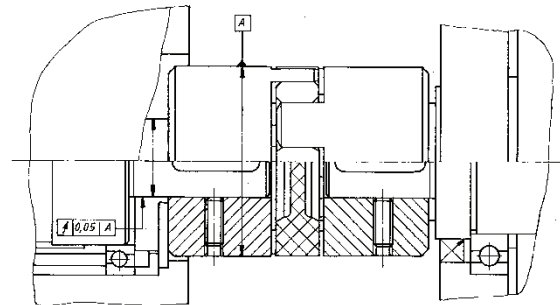
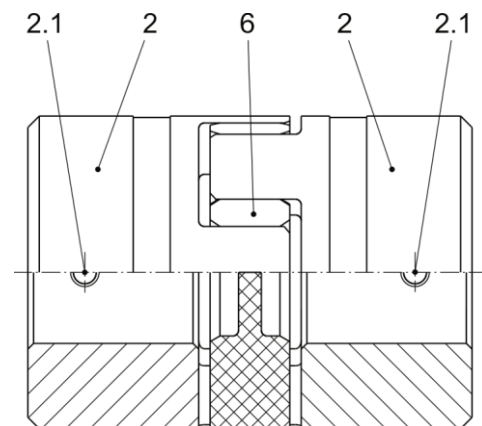

Fig. 5
Fig. 11
- ❑ The recommended bore tolerances are to be produced using the position and tolerance width as references; at the same time, please keep to the shaft run-out tolerance of 0.05 mm to "A" (see Fig. 5).
(see Installation Examples figures 5, 6 and 15).
Installation of the Coupling Hubs with Keyway (Item 2 / Fig. 11)
- 1) Mount the coupling hubs (2) onto both shaft ends using a suitable device and bring them into the correct position.
- 2) Secure the hubs (2) axially. Axial securement takes place via a set screw (adjusting screw Item 2.1, see Fig. 11 and installation example Fig. 5 / page 15).